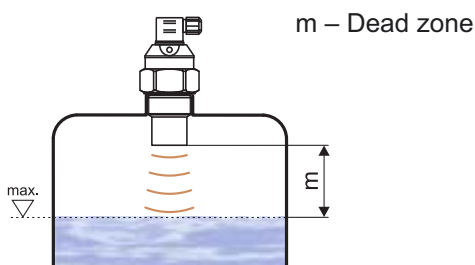

Fig. 2: Level meter dead zone
- In compliance with the measurement principle, no signals **reflected** in the area directly below the level meter (the so-called dead zone) can be evaluated. **The dead zone** (Fig. 2) determines the minimum distance possible between the level meter and the highest surface level. Medium minimum distance parameters are listed in chapter on "Technical specifications".